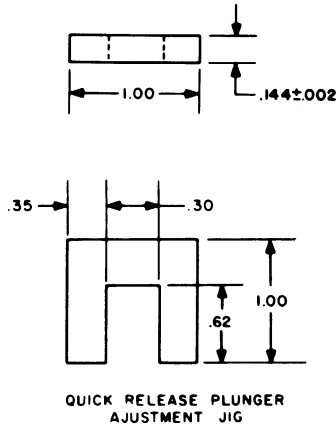

Figure 5.2. Quick Release Plunger Adjustment Jig
- m. Position quick release plunger adjustment jig (figure 5.2) in front of one of the switches over switch actuator button.
- h. Position quick release plunger adjustment jig (figure 5.2) in front of replaced end stop switch over the switch actuator button.